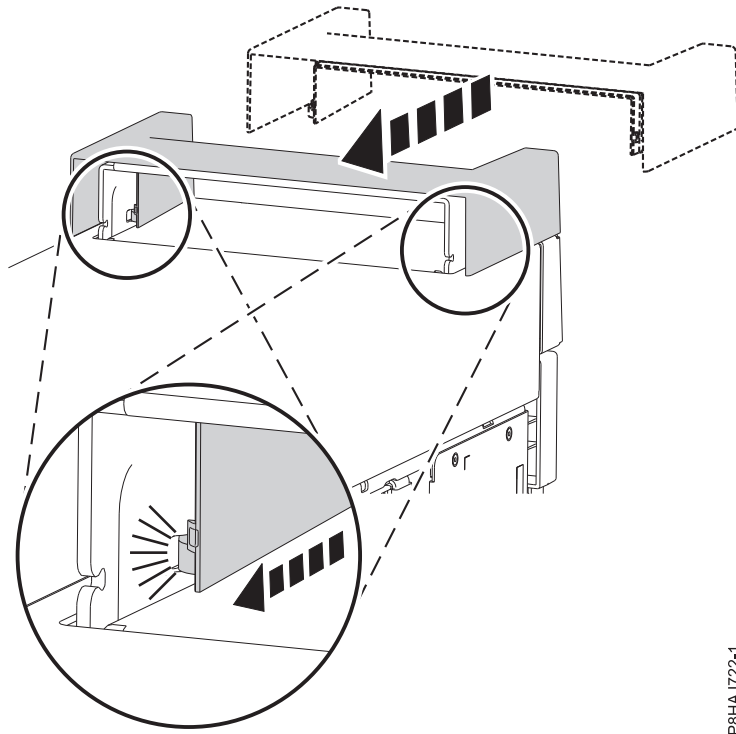

Figure 140. Securing the handle cover in an 8286-41A stand-alone system
1. Secure the handle cover to the internal RDX docking station (FC EUA3) by sliding it toward the rear of the system. See Figure 140.